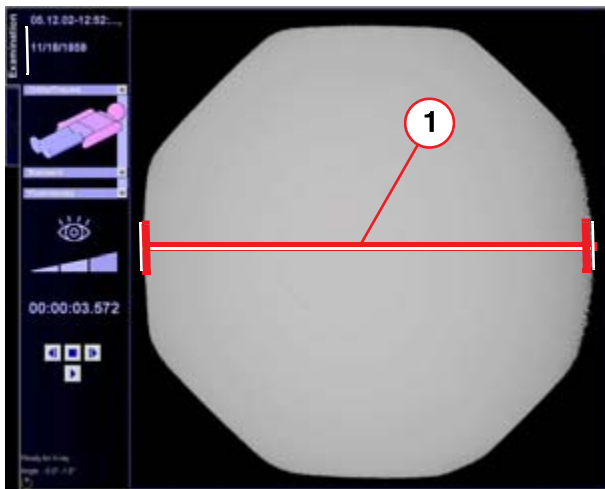

Fig. 8: diameter_x iris
2. Briefly release fluoro and measure the maximum and minimum diameter of the visible X-ray field in full format (1/Fig. 8 / p. 28).